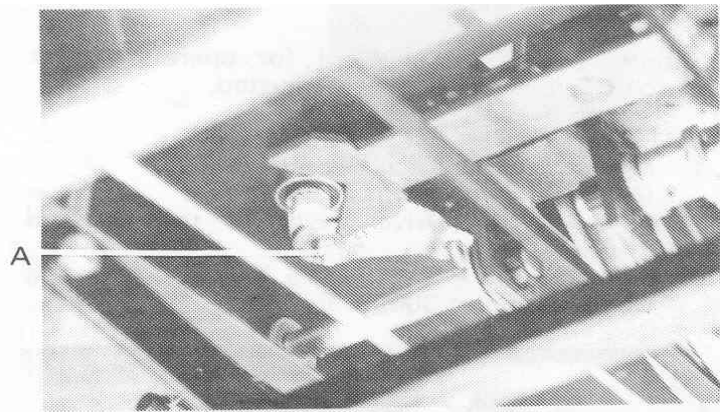

Fig. 22
1. Loosen locknut (A) Fig.22
3. Re-tighten locknuts (A), Fig.22